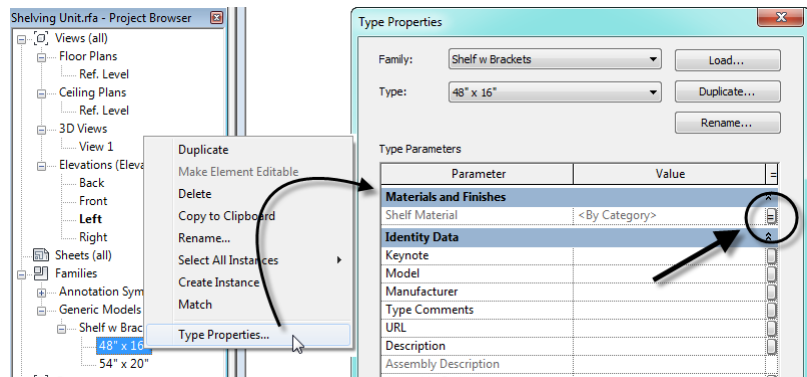

Figure 40
9. In the “Type Properties” dialog, click the small Associate Family Parameter button to the right of Shelf Material and repeat the steps above to create a new parameter in the host file. You can name it: **Shelf Material** again (See Figure 40).